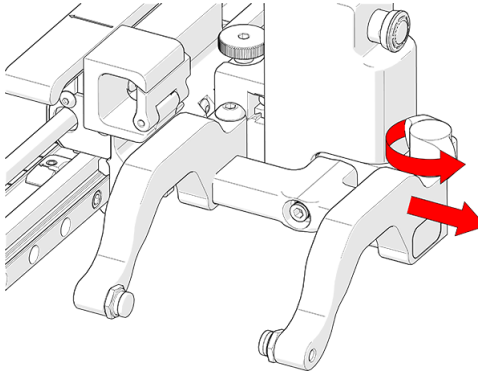

Figure 3-21 Remove outer arm
2. Loosen the probe holder adjustment knob and remove the outer probe holder arm (see Figure 3-21 on page 57).